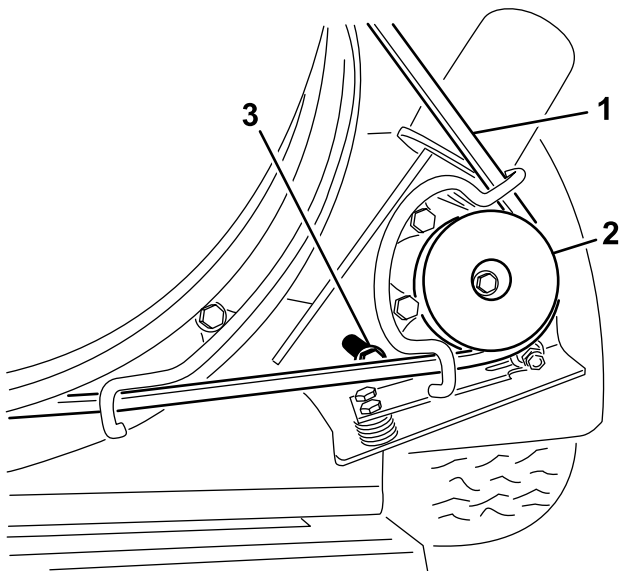

Figure 34
1. Loosen the bolts securing the pulley mounting bracket to the blower frame (Figure 34).